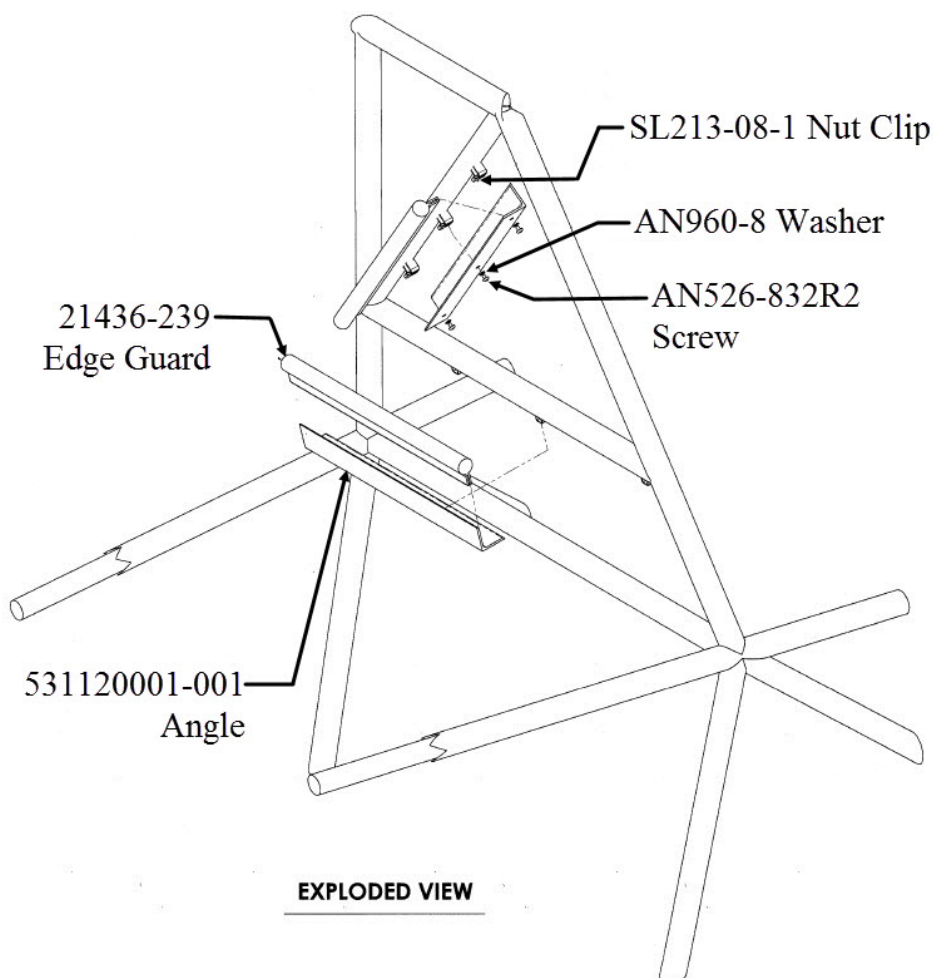

Figure 45-2
1. Insert edge guard and angle flange (2 plcs) as shown in Figure 45-2.